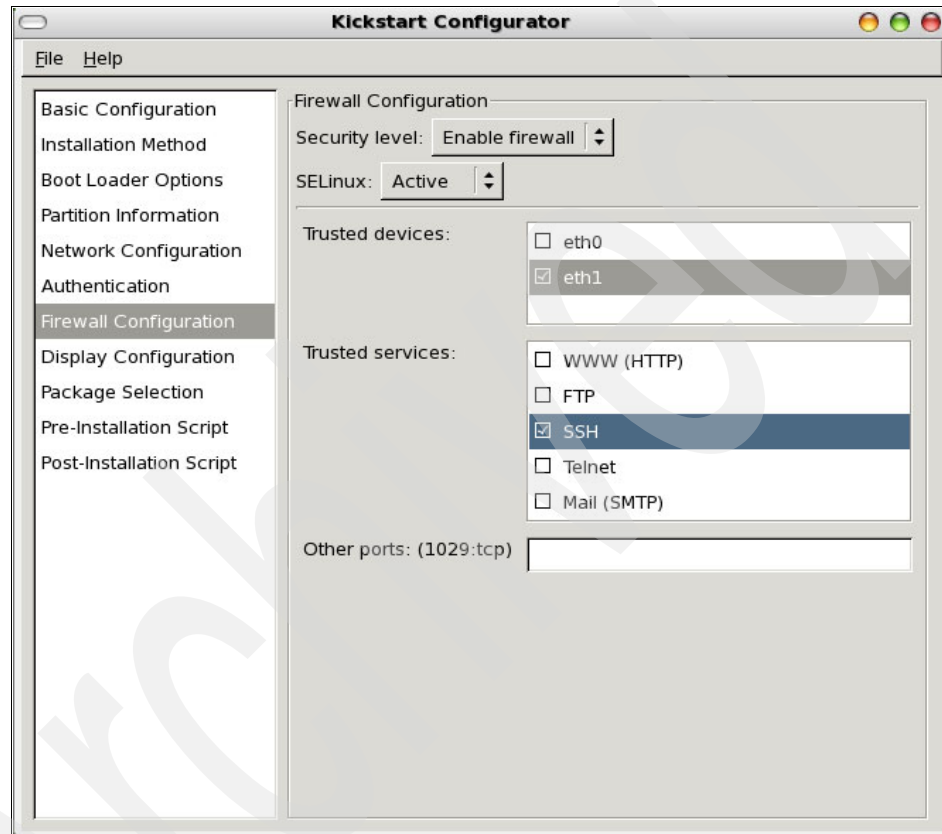

Figure B-5 Firewall Configuration panel (©2008 Red Hat, Inc.)
7. Figure B-5 shows the Firewall Configuration panel. As an example, it is good to enable SSH and to trust interface eth1 at the very minimum to access the system later using the network.